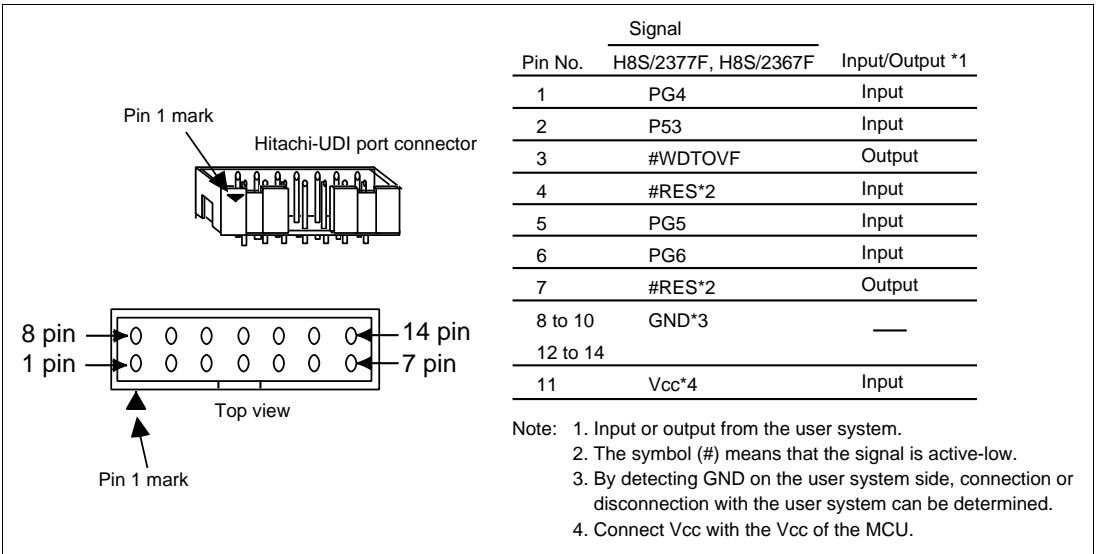

Figure 6.1 Pin Arrangement of the Hitachi-UDI Port Connector
Figure 6.1 shows the pin arrangement of the Hitachi-UDI port connector.
4. The emulator communicates with the MCU by using the pins shown in figure 6.1 (section 6.2). These pins cannot be used.